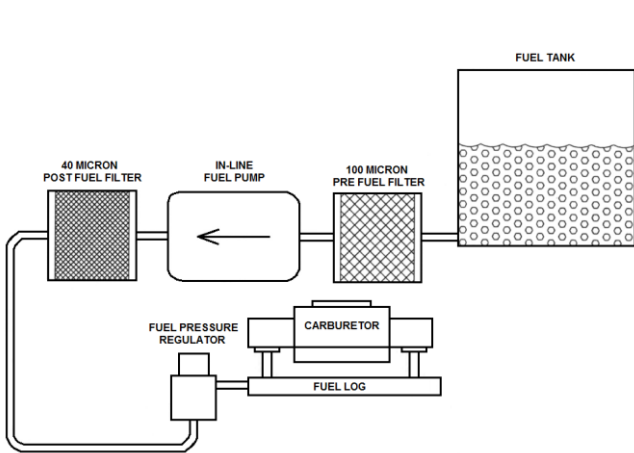

Figure 1
2. The standard regulator, provided with the 80000101 pump, has two discharge (out) ports (see Figure 1). In dual carburetor installations, one port can feed each carburetor. With single carbs, plug one port and feed the carburetor from the other. Either may be used. Installations should determine choice.
4. Connect the other line per Figures 1,2, or 3.
**WARNING!** TURNING THE ADJUSTMENT SCREW ALL THE WAY IN WILL RESULT IN EXCESSIVE FUEL PRESSURE AND CAUSE THE CARBURETOR TO FLOOD. A FLOODED CARBURETOR CAN CAUSE A FIRE AND/OR EXPLOSION RESULTING IN PROPERTY DAMAGE, SERIOUS INJURY, AND/OR DEATH. ALWAYS USE A FUEL PRESSURE GAUGE BETWEEN THE REGULATOR AND THE CARBURETOR(S) WHEN ADJUSTING THE FUEL PRESSURE REGULATOR.